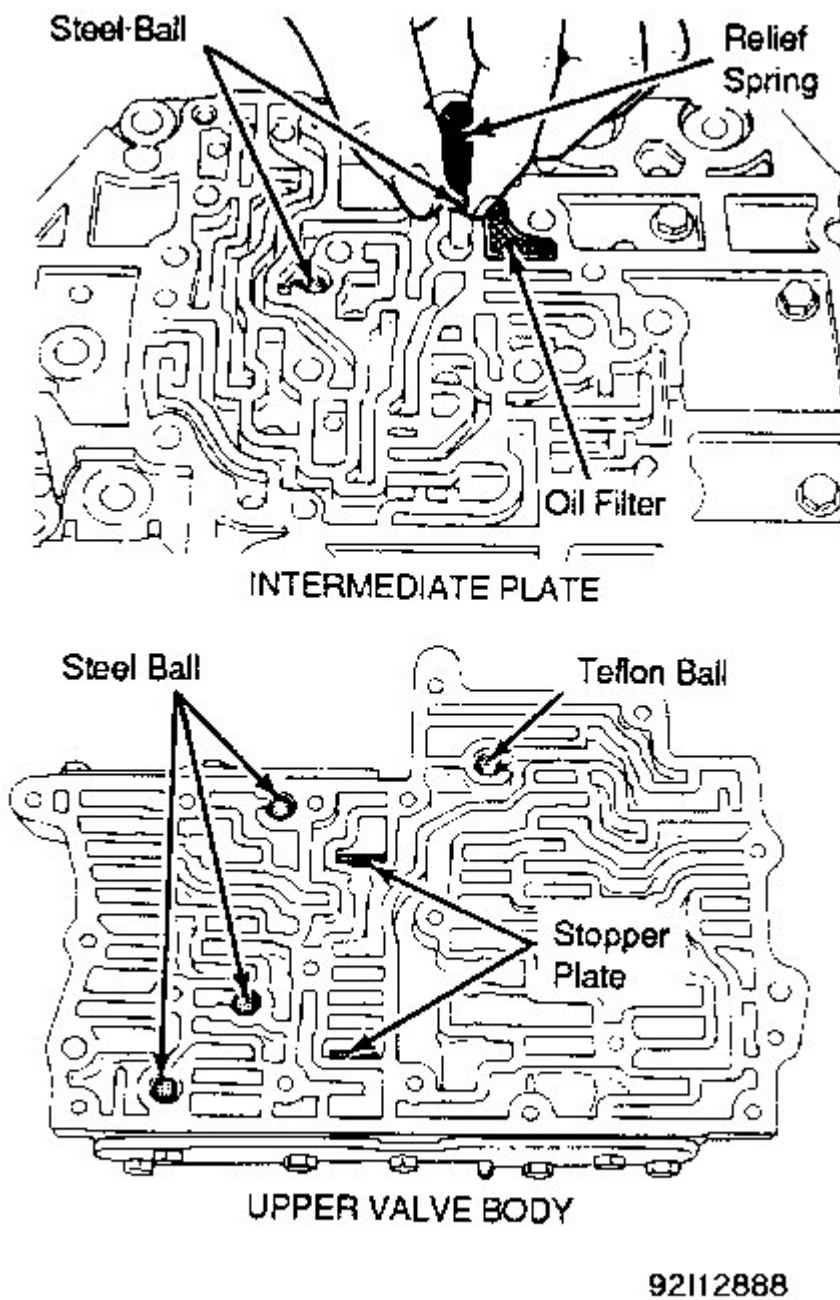
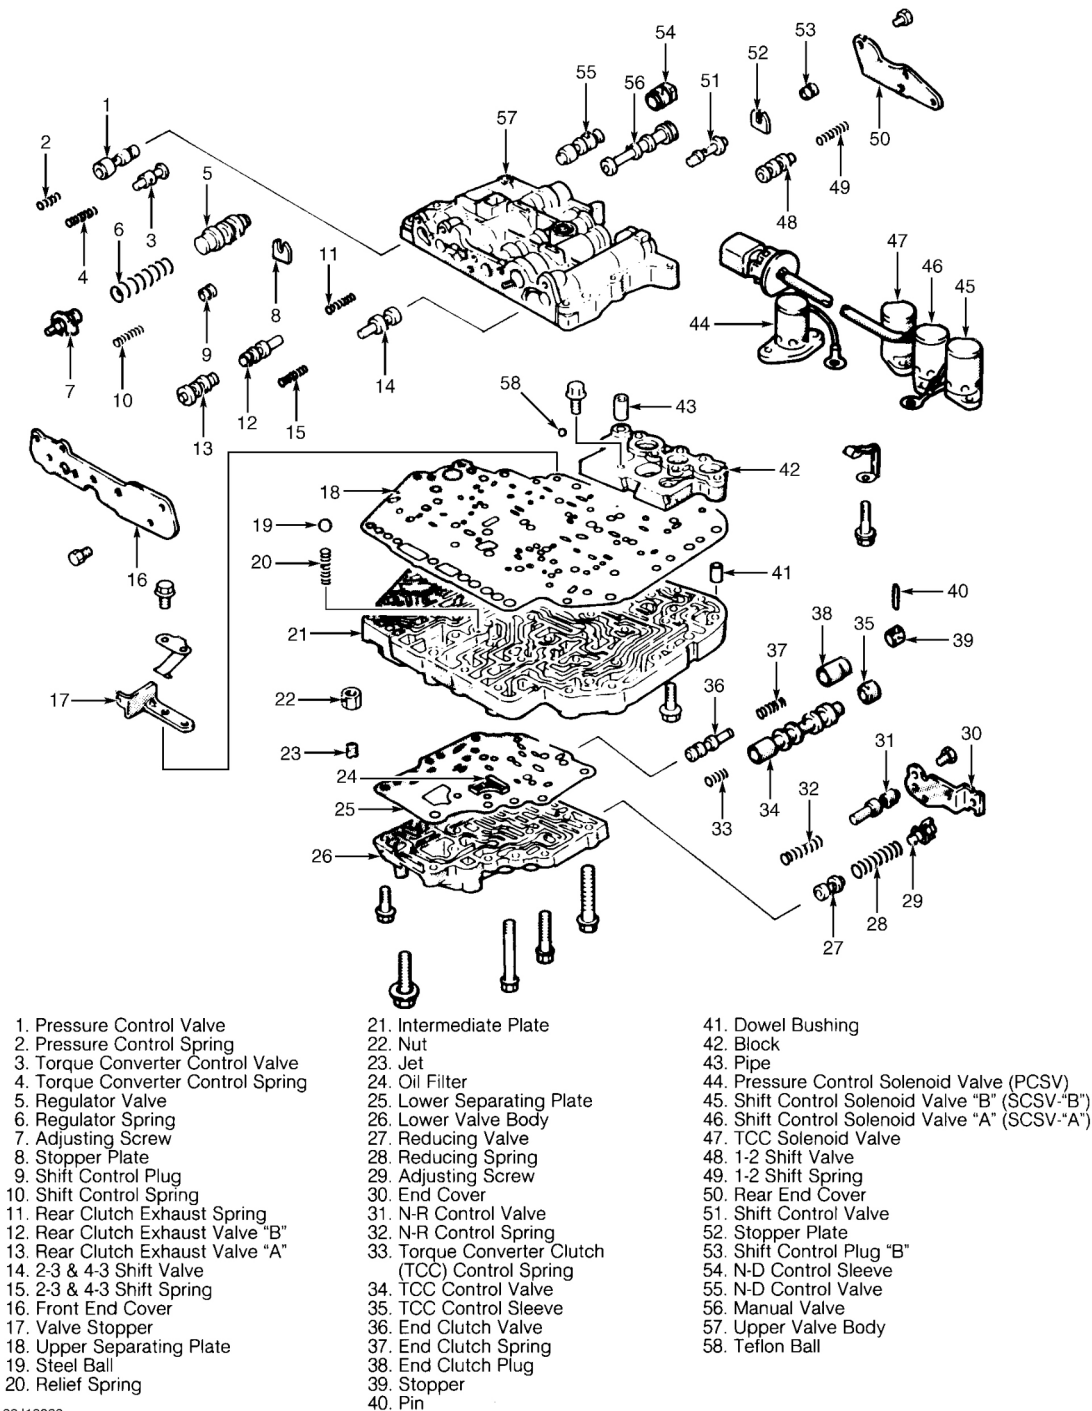

Fig. 33: Locating Steel Balls (F4A20 Series)
Fig. 34: Exploded View of Valve Body Assembly (F4A20 Series)
3. Remove 8 bolts, and remove intermediate plate and upper separating plate. Remove 3 steel balls, Teflon ball and 2 stopper plates from upper valve body. See **Fig. 33** . Remove valves, springs and plugs as shown in **Fig. 34** .
3. Lubricate with ATF and install valves, springs and plugs. See **Fig. 34** .